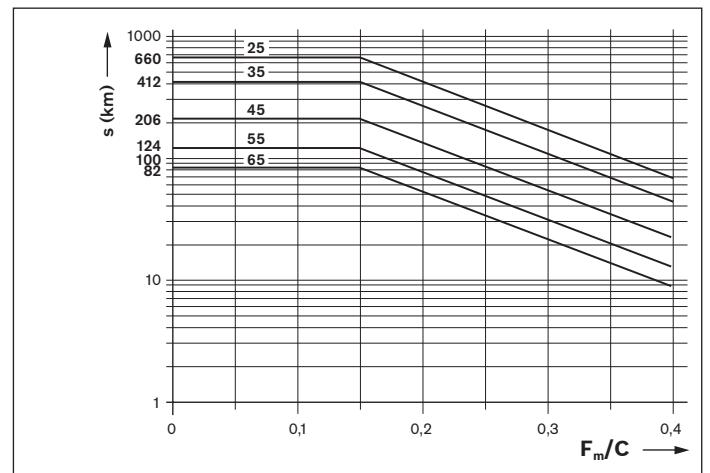

Fig. 2: Relubrication interval
- Apply the minimum quantity according to table 4 at the lube connection until the relubrication interval (figure 2) has been reached.
- Apply the minimum quantity according to table 4 for each lube connection until the relubrication interval (figure 2) has been reached. The number of pulses required for this purpose and the lubrication cycle are to be determined in a similar way as the relubrication (normal stroke).
Notes: The number of pulses that is needed for this is the integer quotient of the minimum relubrication amount according to table 4 and the selected piston distributor size according to table 5. The smallest permissible piston distributor size does not depend on the installation position. The lubrication cycle according to formula 1 is the result from the division of the relubrication interval (according to figure 2) by the determined number of pulses (cf. dimensioning example).